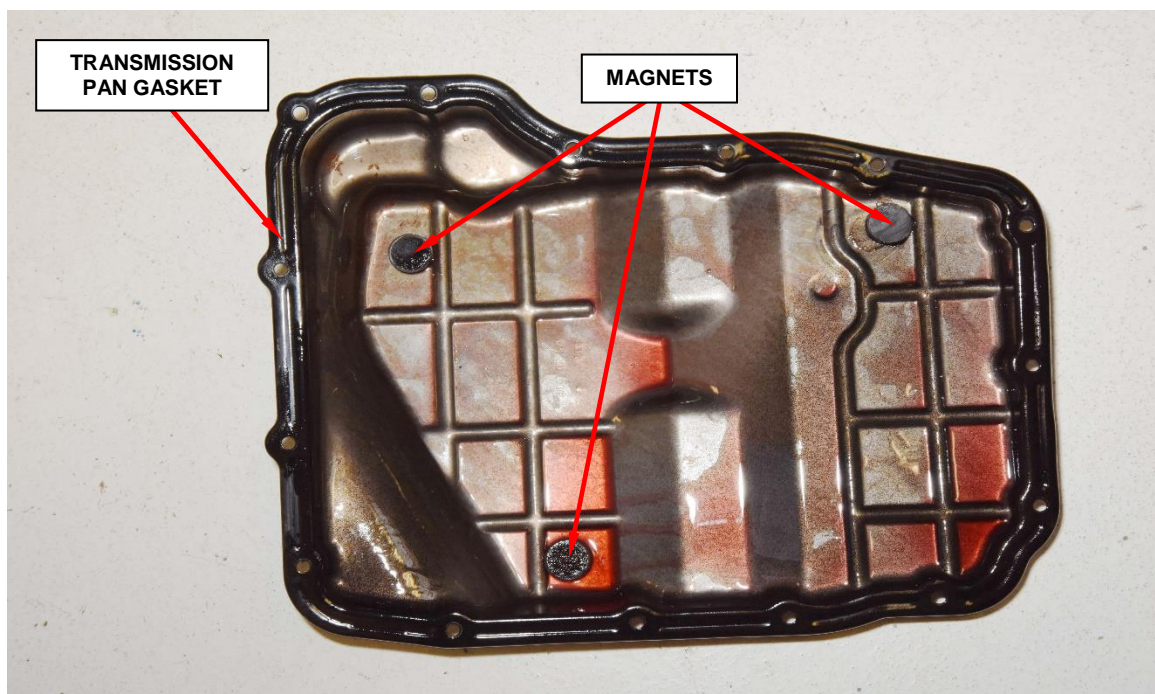

Figure 1 – Transmission Pan
7. Remove the transmission pan gasket and **DISCARD If the vehicle has over 501 miles or vehicle is over 6 months old from vehicle built date.** (Figure 1).
23. Using mineral spirits or equivalent clean the transmission pan and the 3 magnets, assure that all the mineral spirits or equivalent have been wiped out and allowed to dry before installing the transmission pan (Figure 1).
24. Install a **NEW** transmission oil pan gasket **ONLY** on vehicles that have **over 501 miles or vehicle is over 6 months old from vehicle built date.** (Figure 1).